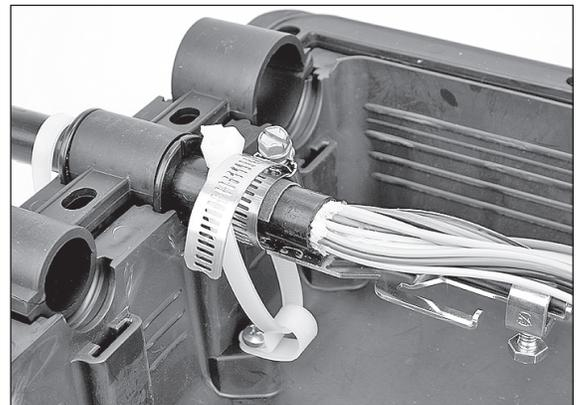

Figure 11
3.10 Using two (2) black cable ties, retain cables in ports by placing ties both inside and outside the base as shown in Figure 11 and 12. (White cable ties used for picture clarity only.)